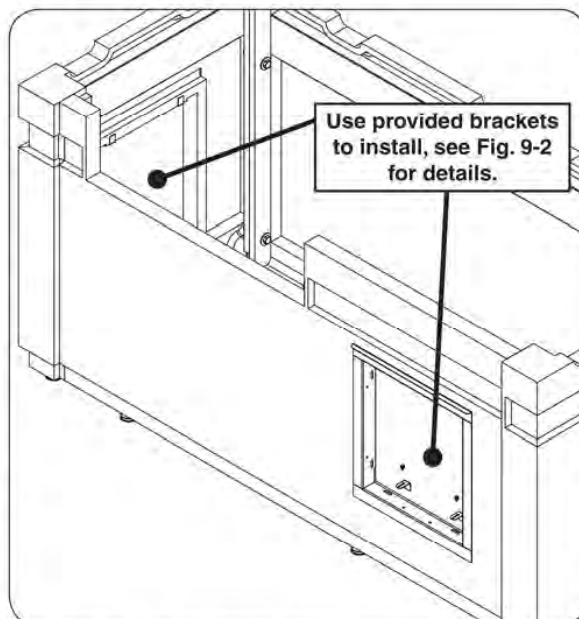
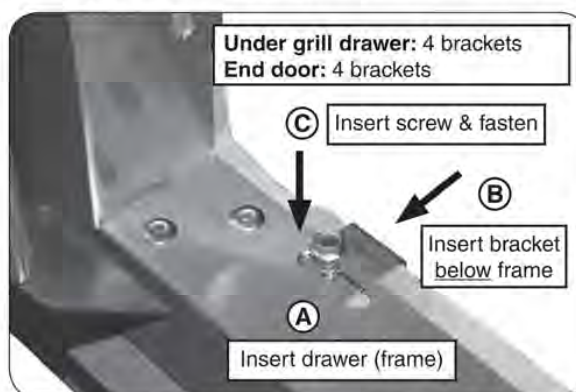

Fig. 9-1 Door and drawer install locations
Fig. 9-2 Door / drawer install detail
The drawer and door for your island are purchased separately. Review the instructions provided with your accessories. See Fig. 9-1 for install locations.
1. Insert your drawer completely into the appropriate opening. Ensure it is flush against the exterior wall (see Fig. 9-1 and Fig. 9-2, A).
2. The drawer will have 2-4 oblong cutouts (or round holes) on both the top and bottom of its frame. Insert a bracket where a cutout exists, below the frame. See Fig. 9-2, B.
3. While squeezing the rear of the bracket and the front of the drawer frame **firmly** against the concrete wall, insert a hex screw and tighten with the power drill and $\frac{5}{16}$ " hex driver (see Fig. 9-2, C). **DO NOT OVERTIGHTEN.**